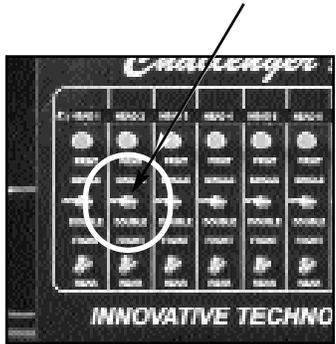

Fig. 3
- **Single/Double Toggle Switch: (Figure 3)**